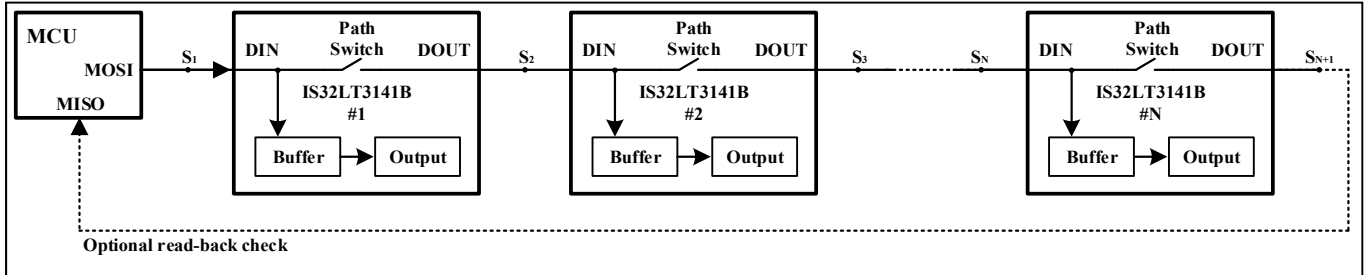

Figure 41 Onewire Serial BUS Connection
An external MCU can easily control output ON/OFF of multiple IS32LT3141B slaves through a onewire serial BUS. As shown in Figure 41. The protocol uses a single data line with cascaded connection between slaves for data transmission. A clock is not required as each slave is clocked by an internal oscillator which is synchronized in-coming command frame from the MCU. Therefore, this protocol significantly simplifies the MCU I/O requirement. A single push-pull I/O can control upto 30 slaves. The onewire serial BUS implements simplex communication. The MCU initiates all transfers on the data line. Transfer of data can only be from the MCU to the slaves and the achievable data rate ($1/T_C$) range is 10kbps to 100kbps. The idle state of the onewire serial BUS is logic high.
As shown in Figure 41. There is a path switch and a data buffer inside each IS32LT3141B device. The path switch is used to connect the DIN to the DOUT. After power up, all IS32LT3141B slaves are in standby mode for command receiving, their path switches in open state and their output stage (output current source) in off state.
- 2) Connect the DOUT of the last slave to the MISO line of the SPI interface for a real-time monitoring of the last command frame. As Figure 41. During the “ON” or “OFF” command frame transmission, the DOUT of the last slave should remain in idle state (logic high). All data read by the MISO line must be “FFh”. Otherwise the onewire serial BUS is in abnormal state. The MCU should abort the command frame transmission and send out a “RESET” signal to reset the onewire serial BUS. If all “ON” or “OFF” command frames are successfully transferred and the “LATCH” command frame is sent out, the data read by the MISO line must be “55h” and “0Fh”, otherwise the onewire serial BUS is in abnormal state. The MCU should abort the